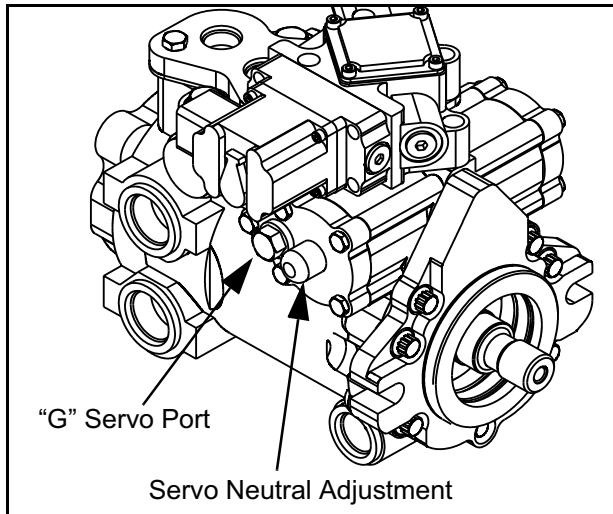

Figure 5 - 9 Conveyor Pump Ports
- 1) Install a low pressure line (500 psi min.) connecting servo port “F” (Figure 5 - 8) and servo port “G” (Figure 5 - 9). This removes the effects of any control pressure on the servo piston.